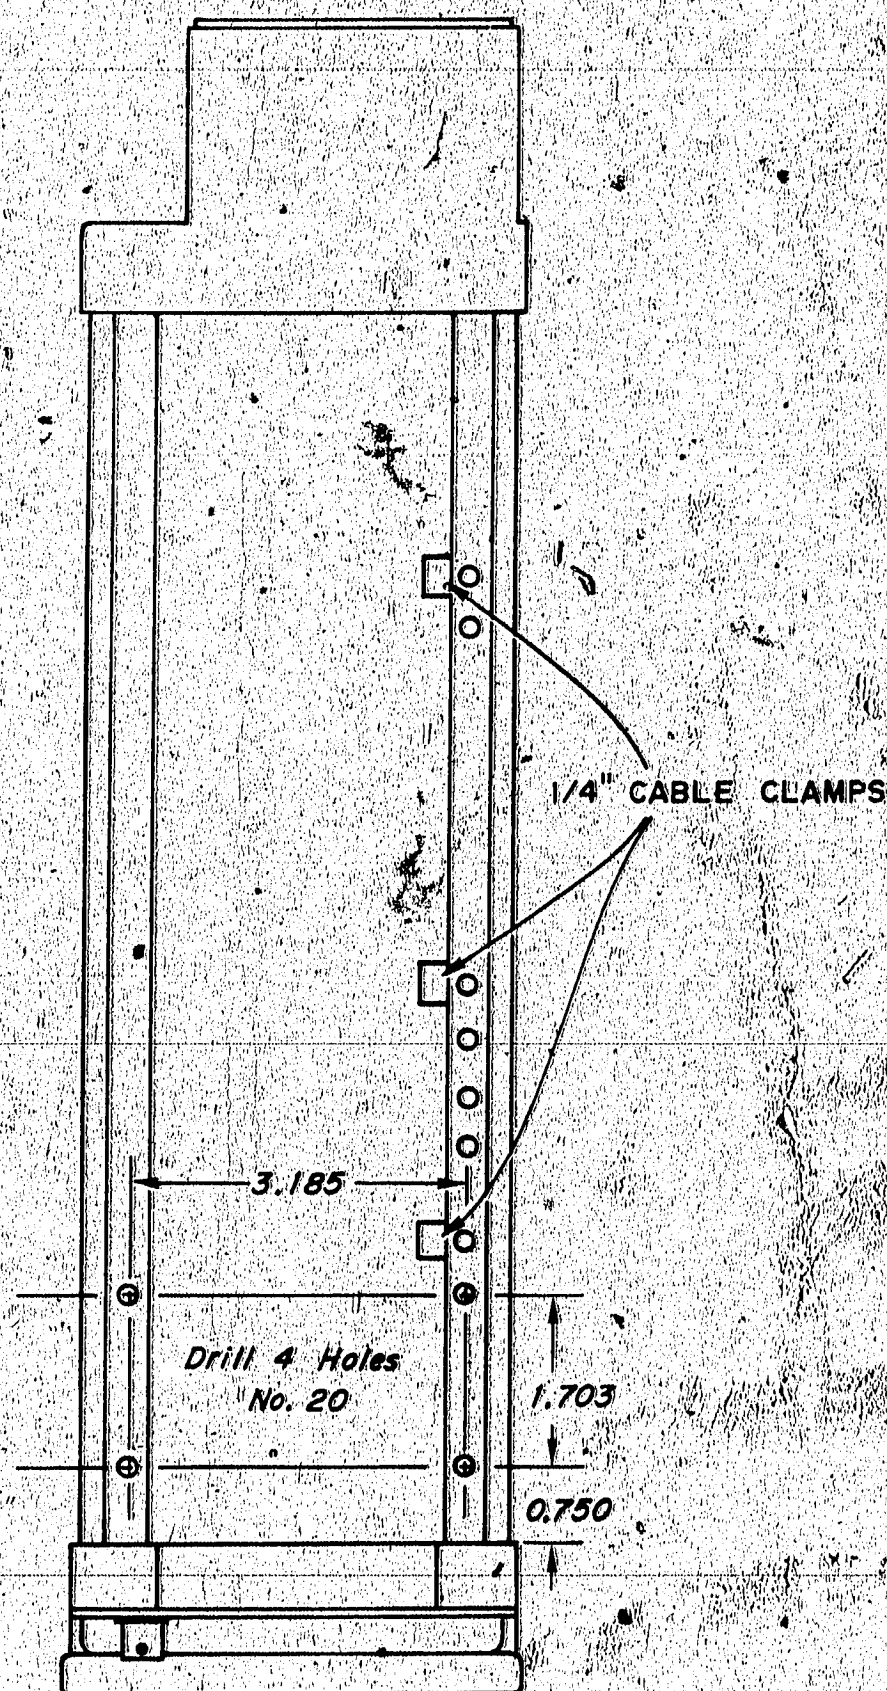

Figure 1. 8692A/B - 8694A/B Shunt Modulator Installation. Bottom View of RF Unit
2. Drill four new mounting holes as shown in Figure 1.